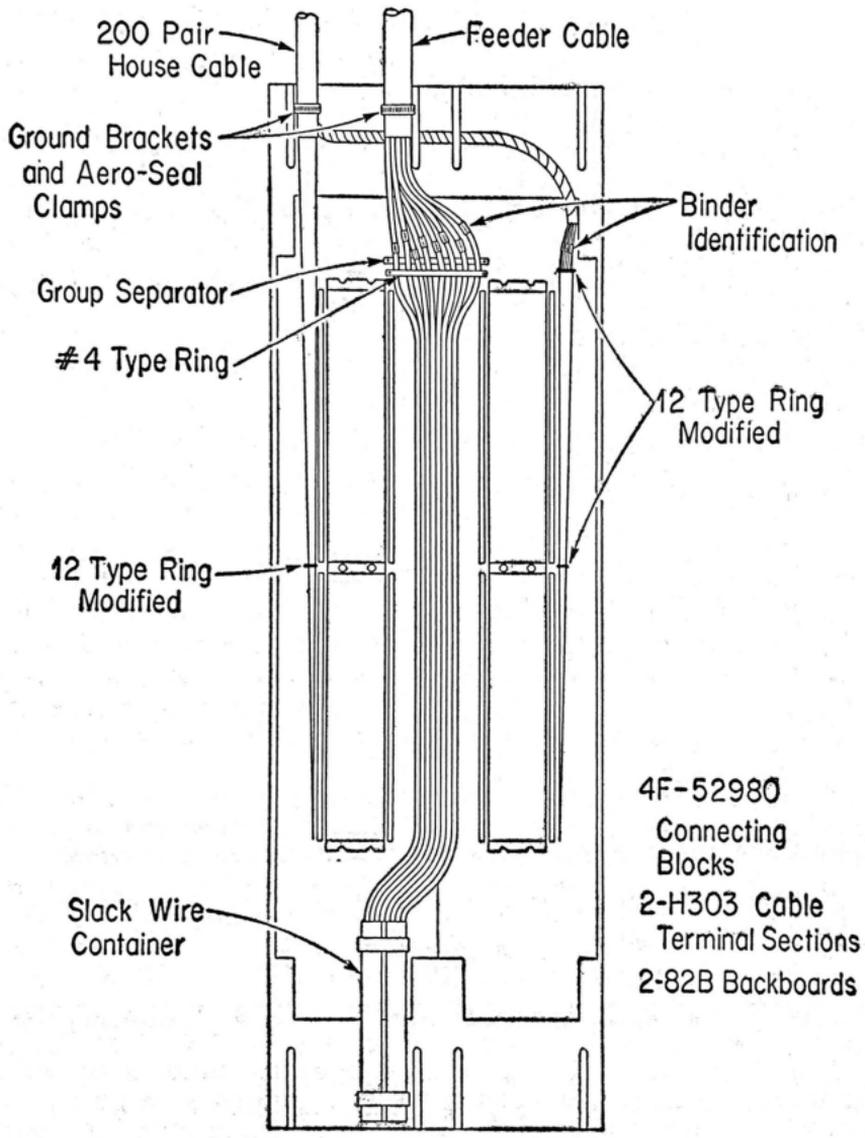

FIG. 4
6.05 Where it is necessary to split the house cable pairs as shown in Fig. 4, tape the horizontal run with one layer of D vinyl tape.